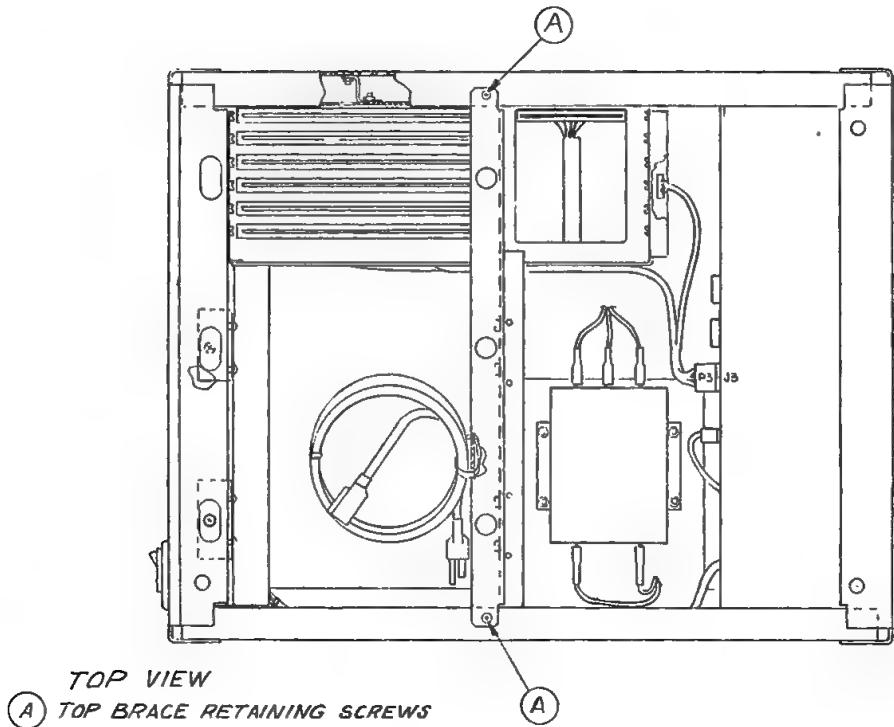

Figure 2-9. Chassis Top View
- c. Remove the center top brace by removing the screws that secure the brace to the chassis and any peripheral devices installed, see Figure 2-9.